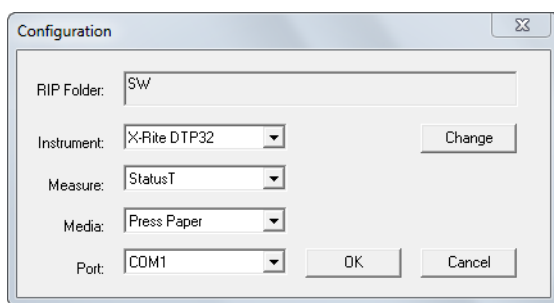

Figure C.1 Configuration dialog box
1. Choose **File > Configure** to display the Configuration dialog box, as shown in Figure C.1.
The default is the relative path to the SW folder of the the RIP with which Genlin is supplied (as shown in Figure C.1).